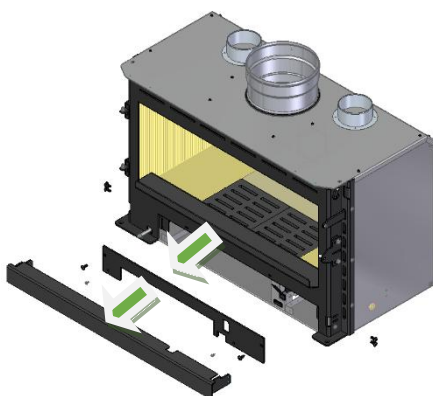

Figure 43– Removing the lower flap and lower cover
a. Remove the bottom flap by loosening the side screws and then remove the bottom front cover by also loosening the screws, see Figure 43.